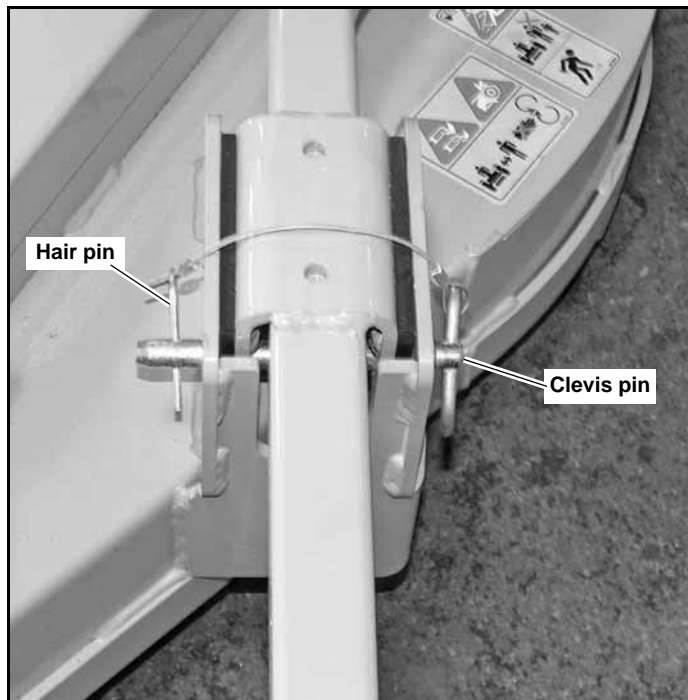
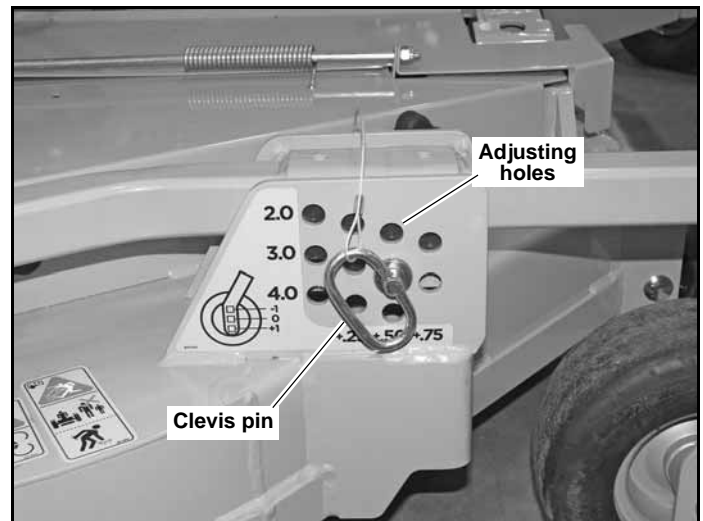

Figure 3-15
Figure 3-16
7. On the side decks remove the hair pin from the clevis pin and remove the pin from the height adjusting hole. Slide the side wheel arm assembly until a slot aligns with the desired hole. Slide the pin through the hole and insert the hair pin. Figure 3-15 & Figure 3-16